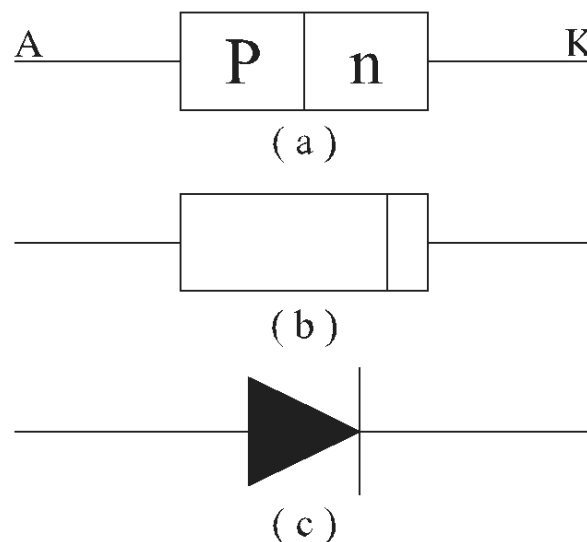

Figure 2-4. (a) Diode construction (b) physical appearance and (c) symbol.
In figure 2.4(c), the electrical symbol used to represent a diode is shown. The p-terminal is called the anode, and the n-terminal is called the cathode. The symbol for the diode is an arrow pointing from the anode to the cathode. In the direction in which the arrow points, current flow is possible, while in the opposite direction it is not. The physical shape of the diode, on the other hand, is that of a small dark-colored tank, marked at the cathode end with a silver-colored band. This can be seen in figure 2.4(b), while in figure 2.4(a) the physical composition of the diode is shown, indicating its anode (A) and cathode (K) terminals.